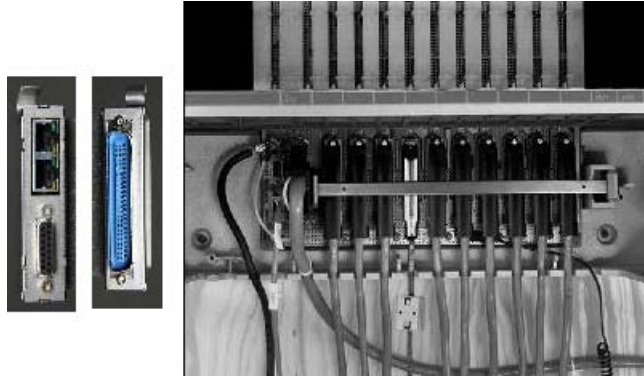

Figure 53: Cabinet
- Connect the MGC DECT Clock Reference Cable (NTDW67AAE5) to 15-pin DSUB connector on the Breakout Adapter. Figure 53: Cabinet on page 220 shows the cabinet.